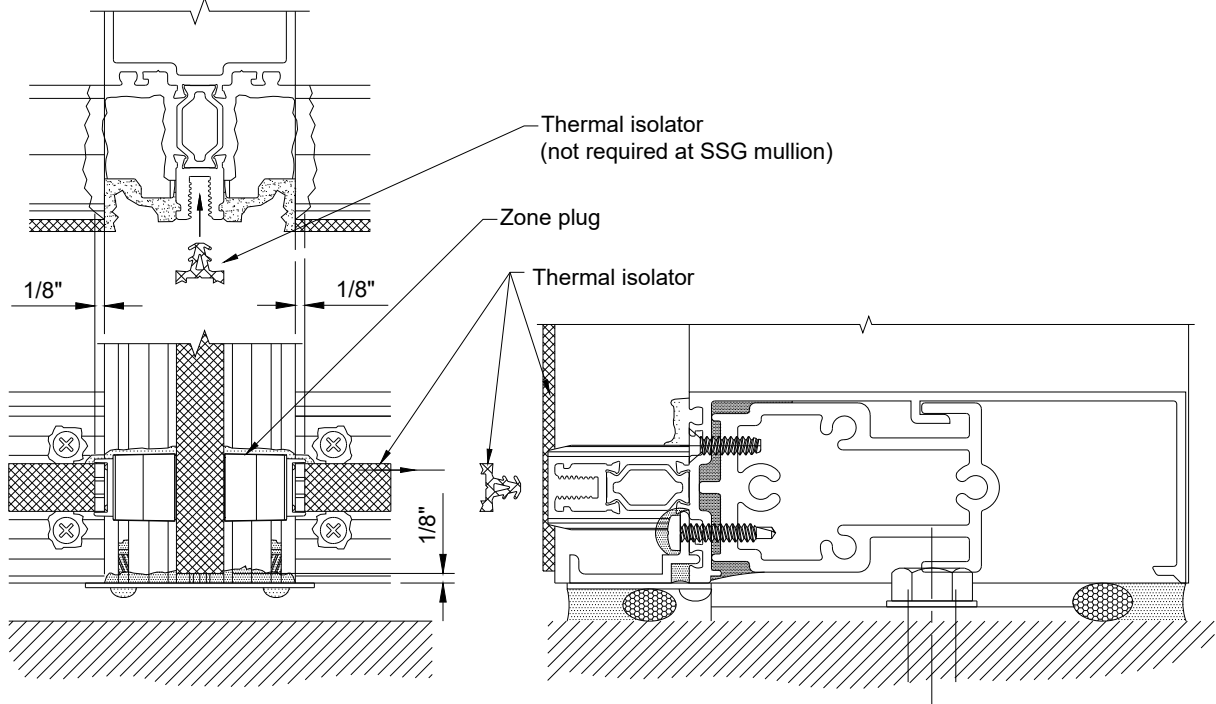

Figure 60: Thermal Isolator Installation
- 20.3 Install thermal spacer into groove on face of Mullion tongues. Run through at typical Vertical splice joints. Cut short 1/8" from each end of the Mullion. See *Figure 60*.